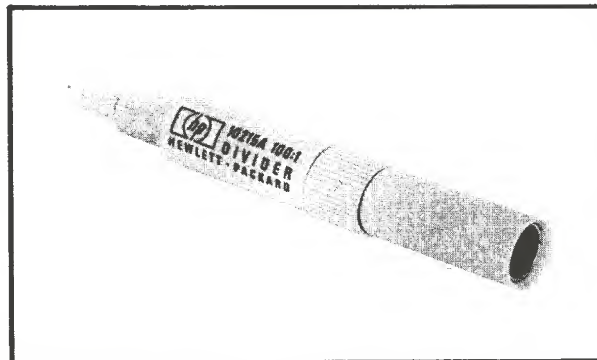

Figure 1. Model 10215A
2. The HP Model 10215A 100:1 Divider is a signal probing accessory (see Figure 1) which is designed for use with the Model 1123A Voltage Probe only. The divider increases the dynamic range of the Model 1123A to ± 50 volts. Specifications for the HP Model 10215A are listed in Table 1.